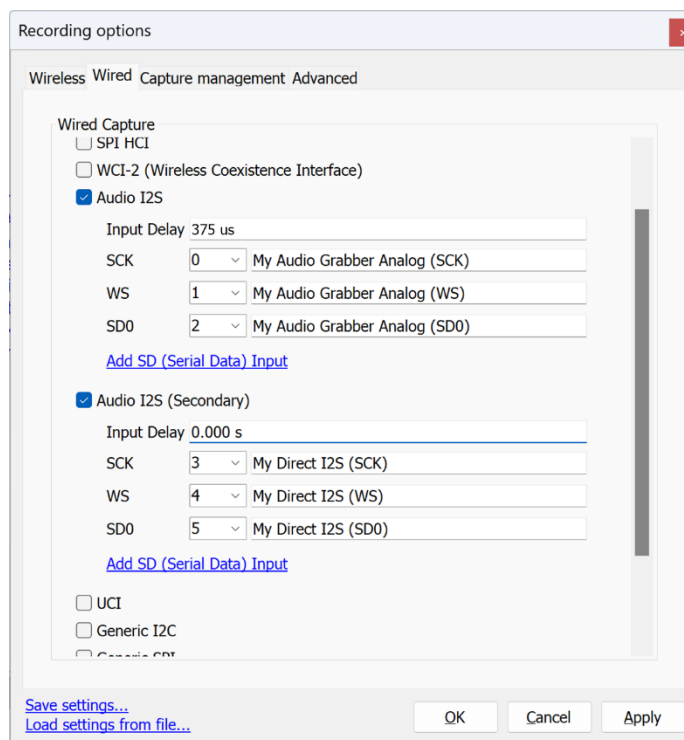

Figure 9 - Recording Options Setup for Audio I2S Inputs and Input Delay
4. In Recording Options, assign primary Audio I2S inputs as shown in Figure 9. The analog inputs to the Audio Grabber are converted to I2S and are hardwired to I/O's 0 (SCK), 1 (WS), and 2 (SD0) as shown on the Audio Grabber PCB and as shown below in Figure 9.